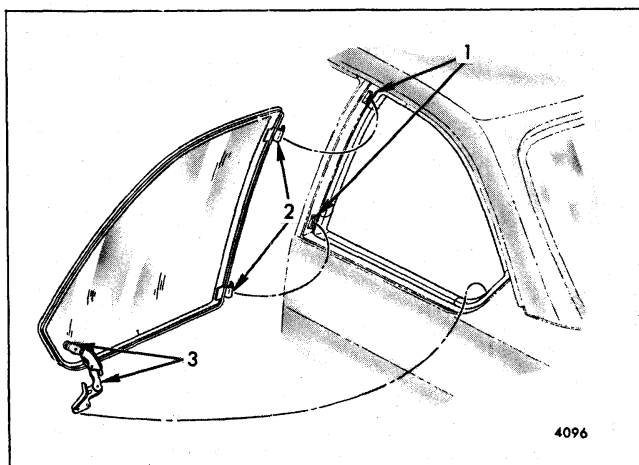

Fig. 6-49-Optional Swing-Out Quarter Window Removal - "H-11 and 77" Styles Shown ("X-17,27" Styles Similar)
3. Swing glass outboard from rear to permit disengagement of hinge straps from hinge pins to body pillar (Fig. 6-49).
window opening and engage hinge straps to hinge pins (Fig. 6-49).